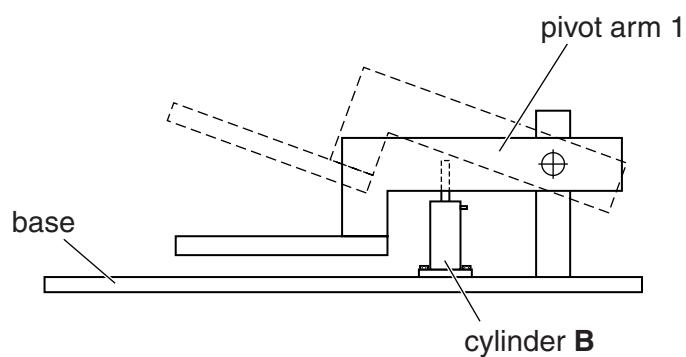

Fig. 8
- (c) Fig. 8 shows the movement of pivot arm 1 which takes place when cylinder B is outstroked.